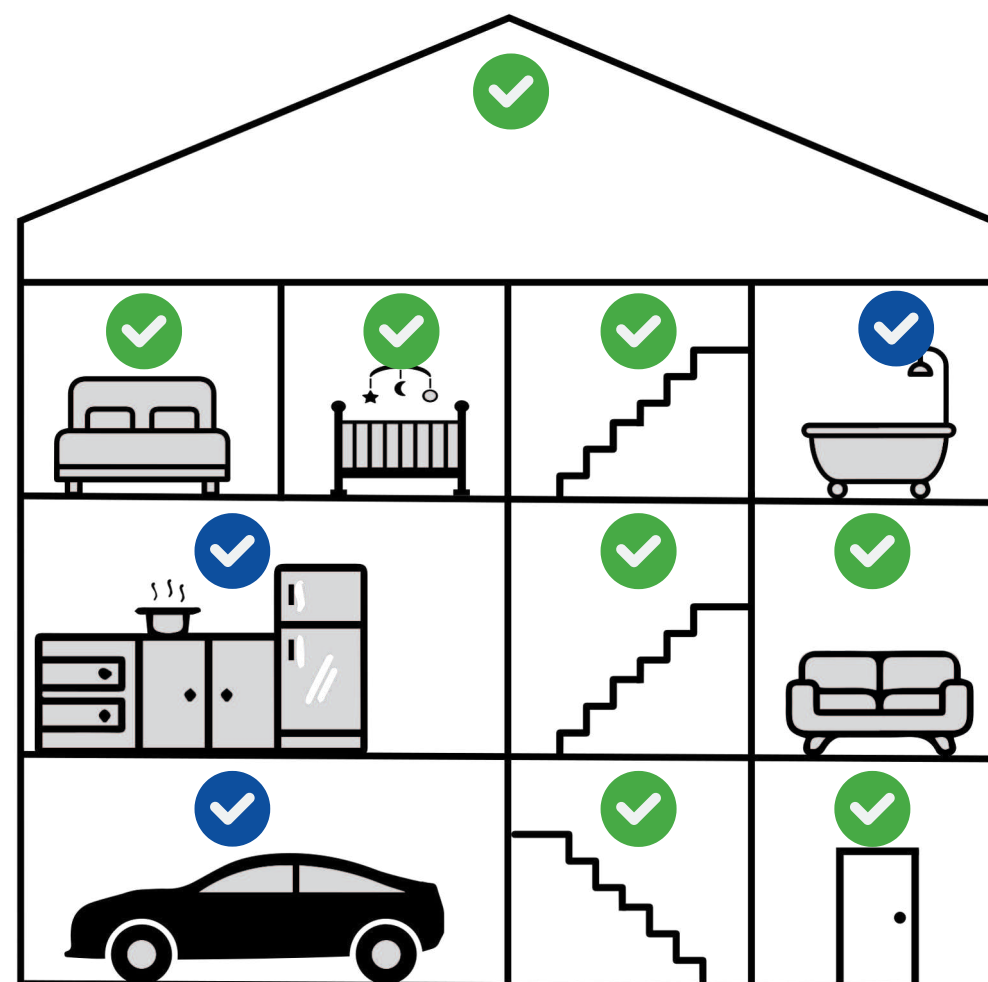

Figure 3: Recommended mounting locations for smoke mode in green and heat mode in blue
- Check figure 3, 4 and 5 for correct mounting locations. Most EU countries require smoke detectors on all floors and escape routes.